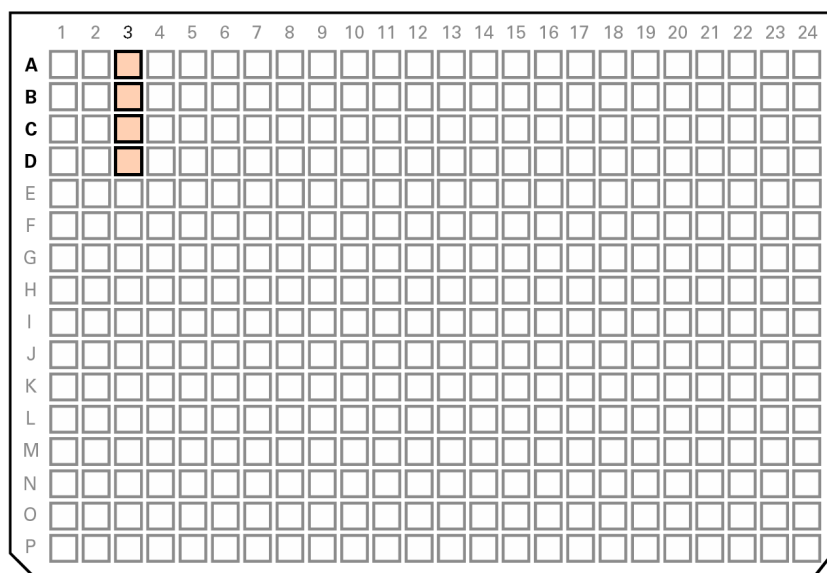

Figure 13. Setting up the source plate for dispensing RT-PCR mix.
6. Pipette 50 µl of the RT-PCR reaction mix into wells A3, B3, C3, and D3 of a 384-Well Source Plate, as shown in Figure 13.